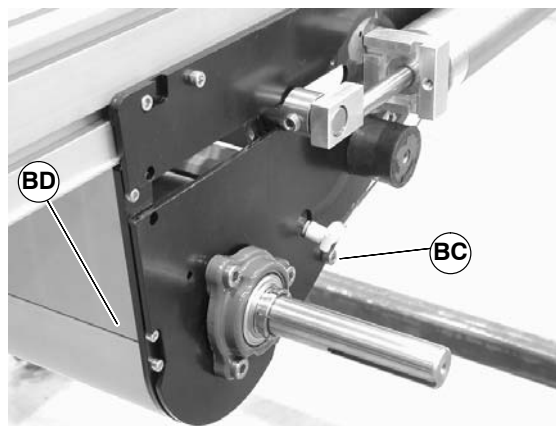

Figure 26
6. Temporarily support the tensioning roller guard (BD of figure 26). Remove screws (BC of Figure 26) on both sides of center drive and remove tensioning roller guard (BD of Figure 26 and 27).